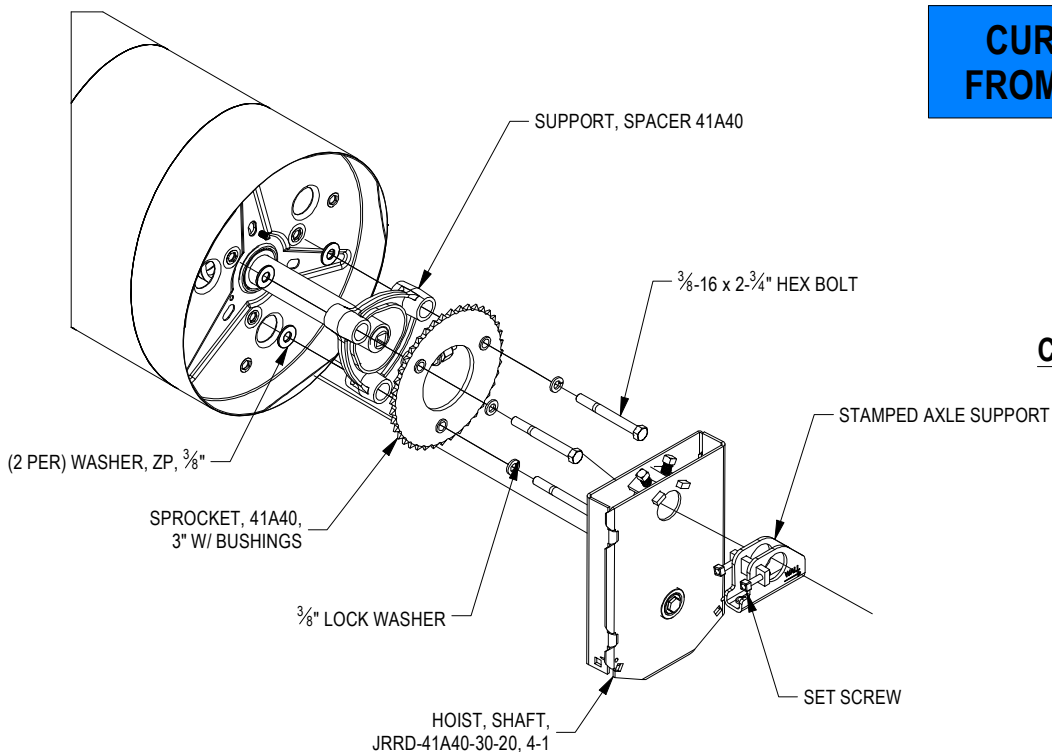

**FIGURE 8:
- ▶ Using one (1) Stamped Axle Support per side, with directional arrows pointing toward wall, slide Stamped Axle Support over axle.
- ▶ Tighten $\frac{3}{8}$ " - 16 square head set screws when in place. **See Figures 8.**